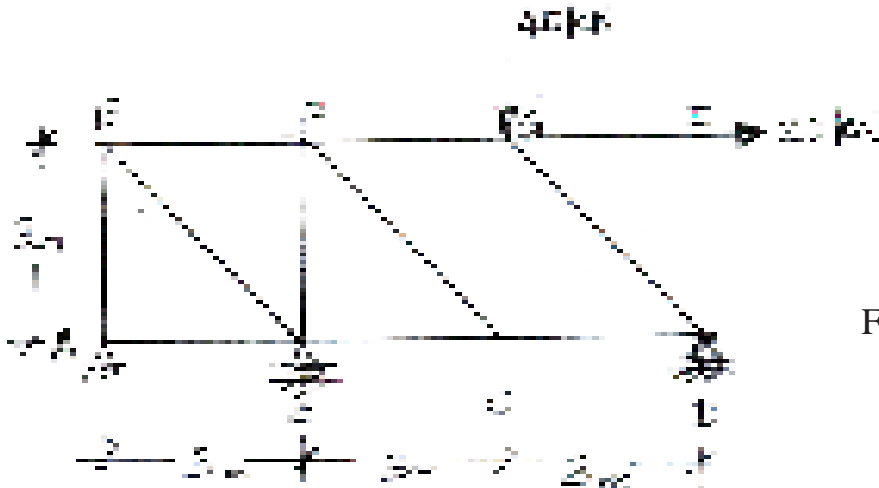

Fig. 12
- b) Find the support reaction for redundant truss shown in Fig. 12. Assume, $E = 2 \times 10^5 \text{ N/mm}^2$ and Area, $A = 1000 \text{ mm}^2$ for all members.